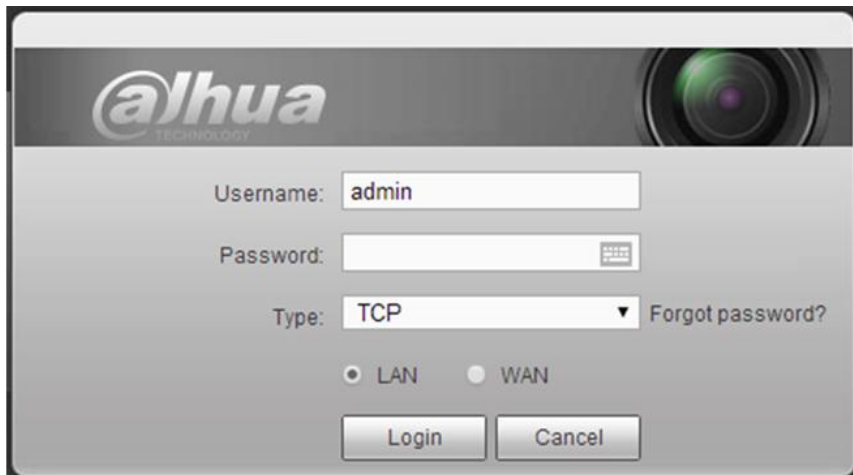

Figure 4-6
Step 1 Open browser and go to the device login interface. See Figure 4-6.